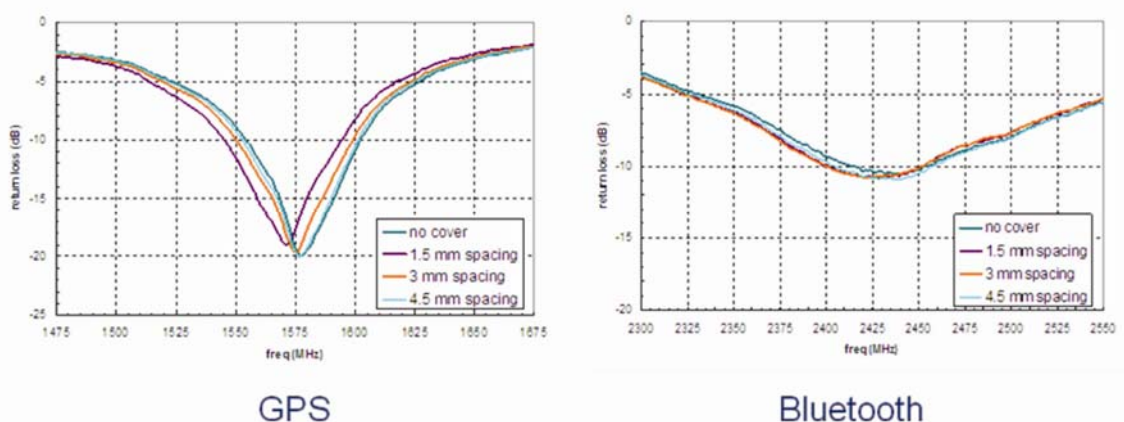

Figure 21
1.2 mm ABS plastic was positioned at various distances from Ethertronics GPS and Bluetooth® antennas to simulate the impact that plastic covers might have on antenna performance. The result was negligible detuning over spacing of 1.5mm or greater (see Figure 21 below).